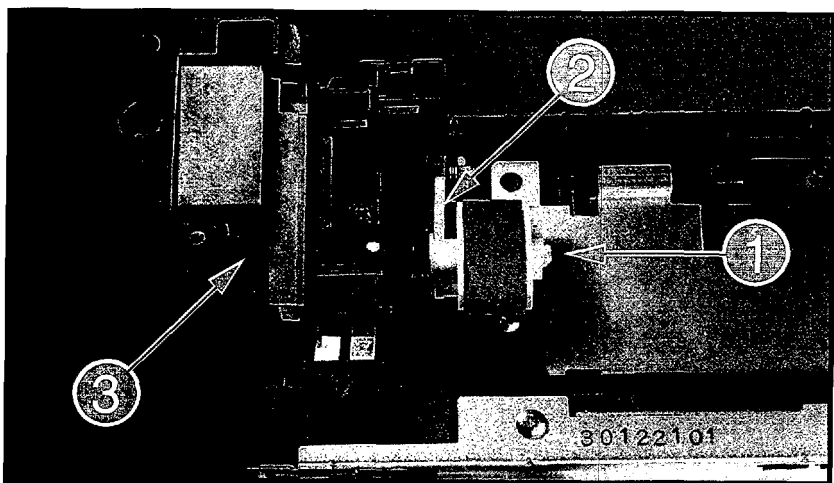

Figure 6-41 Removing the D-Roller
Ensure that the PS1 Input Paper Sensor Arm (Figure 6-51), and the PS2 Paper-out Sensor Flag on the D-Roller Assembly (Figure 6-41, callout 2) are in their proper positions. The Input Paper Sensor Arm should operate freely. If either of these are not seated properly, this will cause a continuous Paper Jam error condition.
2. Lift upward on the pressure clip (Figure 6-41, callout 1) and slide the D-Roller off the shaft.
Be sure to remove the plastic latch clip as shown in Figure 6-41 before attempting to remove the D-Roller, or damage to the printer will result.